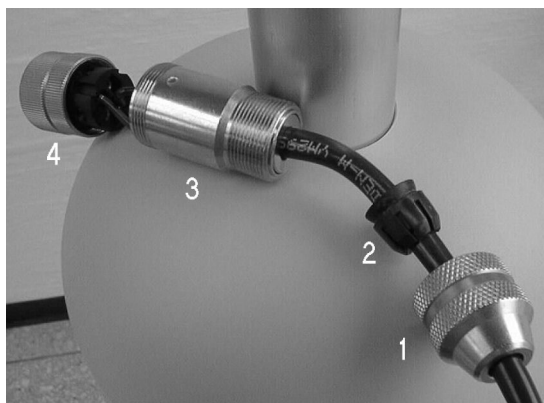

Figure 163 Assembling the Connector
1. Pull the sensor cable close to the logger enclosure. Cut the cable to a proper length. Thread the cable through the connector parts in the indicated order 1-2-3-4. See Figure 163 on page 220.